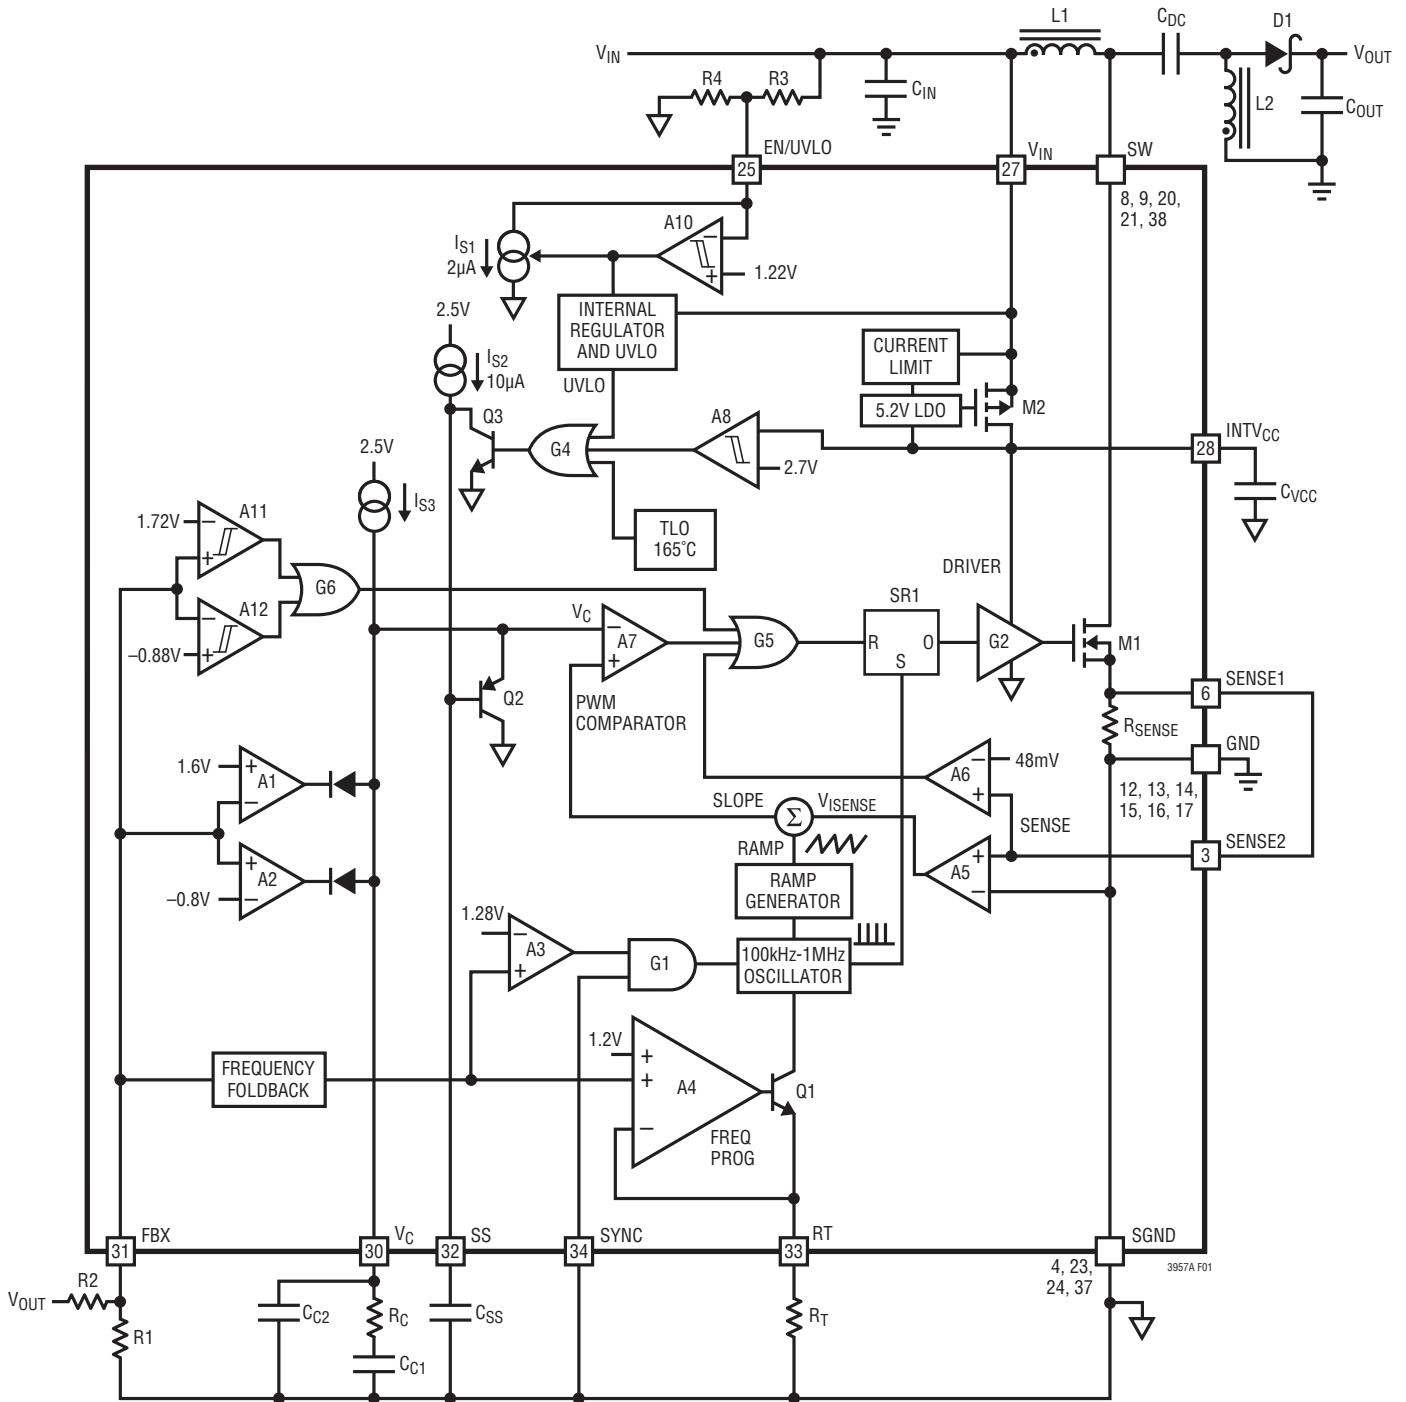

Figure 1. LT3957A Block Diagram Working as a SEPIC Converter
The LT3957A uses a fixed frequency, current mode control scheme to provide excellent line and load regulation. Operation can be best understood by referring to the Block Diagram in Figure 1.
The LT3957A is capable of generating either positive or negative output voltage with a single FBX pin. It can be configured as a boost, flyback or SEPIC converter to generate positive output voltage, or as an inverting converter to generate negative output voltage. When configured as a SEPIC converter, as shown in Figure 1, the FBX pin is pulled up to the internal bias voltage of 1.6V by a voltage divider (R1 and R2) connected from V_{OUT} to SGND. Comparator A2 becomes inactive and comparator A1 performs the inverting amplification from FBX to V_C . When the LT3957A is in an inverting configuration, the FBX pin is pulled down to $-0.8V$ by a voltage divider connected from V_{OUT} to SGND. Comparator A1 becomes inactive and comparator A2 performs the noninverting amplification from FBX to V_C .
The purpose of this current is to allow the user to program the rising hysteresis. The Block Diagram of the comparator and the external resistors is shown in Figure 1. The typical falling threshold voltage and rising threshold voltage can be calculated by the following equations:
An internal, low dropout (LDO) voltage regulator produces the 5.2V INTV_{CC} supply which powers the gate driver, as shown in Figure 1. The LT3957A contains an undervoltage lockout comparator A8 for the INTV_{CC} supply. The INTV_{CC} undervoltage (UV) threshold is 2.7V (typical), with 0.1V hysteresis, to ensure that the internal MOSFET has sufficient gate drive voltage before turning on. When INTV_{CC} is below the UV threshold, the internal power switch will be turned off and the soft-start operation will be triggered. The logic circuitry within the LT3957A is also powered from the internal INTV_{CC} supply.
If LT3957A operates at a low V_{IN} and high switching frequency, the voltage drop across the drain and the source of the LDO PMOS (M2 in Figure 1) could push INTV_{CC} to be below the UV threshold. To prevent this from happening, the INTV_{CC} pin can be shorted directly to the V_{IN} pin. V_{IN} must not exceed the INTV_{CC} Absolute Maximum Rating (8V). In this condition, the internal LDO will be turned off and the gate driver will be powered directly from V_{IN}. It is recommended that INTV_{CC} pin be shorted to the V_{IN} pin if V_{IN} is lower than 3.5V at 1MHz switching frequency, or V_{IN} is lower than 3.2V at 100kHz switching frequency. With the INTV_{CC} pin shorted to V_{IN}, however, a small current (around 16μA) will load the INTV_{CC} in shutdown mode.
The choice of operating frequency may be determined by on-chip power dissipation (a low switching frequency may be required to ensure IC junction temperature does not exceed 125°C), otherwise it is a trade-off between efficiency and component size. Low frequency operation improves efficiency by reducing gate drive current and MOSFET and diode switching losses. However, lower frequency operation requires a physically larger inductor. Switching frequency also has implications for loop compensation. The LT3957A uses a constant-frequency architecture that can be programmed over a 100kHz to 1000kHz range with a single external resistor from the RT pin to SGND, as shown in Figure 1. A table for selecting the value of RT for a given operating frequency is shown in Table 1.
The output voltage VOUT is set by a resistor divider, as shown in Figure 1. The positive and negative VOUT are set by the following equations:
The LT3957A addresses this mechanism with the SS pin. As shown in Figure 1, the SS pin reduces the power MOSFET current by pulling down the V_C pin through Q2. In this way the SS allows the output capacitor to charge gradually toward its final value while limiting the start-up peak currents. The typical start-up waveforms are shown in the Typical Performance Characteristics section. The inductor current I_L slewing rate is limited by the soft-start function.
Loop compensation determines the stability and transient performance. The LT3957A uses current mode control to regulate the output which simplifies loop compensation. The LT3957A improves the no-load to heavy load transient response, compared to the LT3957. New internal circuits ensure that the transition from not switching to switching at high current can be made in a few cycles. The optimum values depend on the converter topology, the component values and the operating conditions (including the input voltage, load current, etc.). To compensate the feedback loop of the LT3957A, a series resistor-capacitor network is usually connected from the V_C pin to SGND. Figure 1 shows the typical V_C compensation network. For most applications, the capacitor should be in the range of 470pF to 22nF, and the resistor should be in the range of 5k to 50k. A small capacitor is often connected in parallel with the RC compensation network to attenuate the V_C voltage ripple induced from the output voltage ripple through the internal error amplifier. The parallel capacitor usually ranges in value from 10pF to 100pF. A practical approach to design the compensation network is to start with one of the circuits in this data sheet that is similar to your application, and tune the compensation network to optimize the performance. Stability should then be checked across all operating conditions, including load current, input voltage and temperature. Application Note 76 is a good reference on loop compensation.